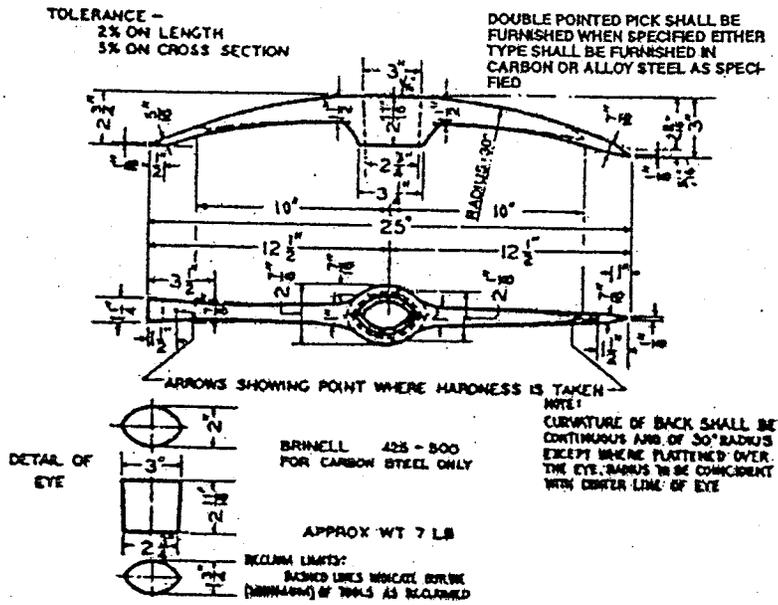

Figure 6-1. Plan 1-62 - AREMA Clay Pick
- a. For the plans for track tools refer to Table 6-12 and Figure 6-1 through Figure 6-40.